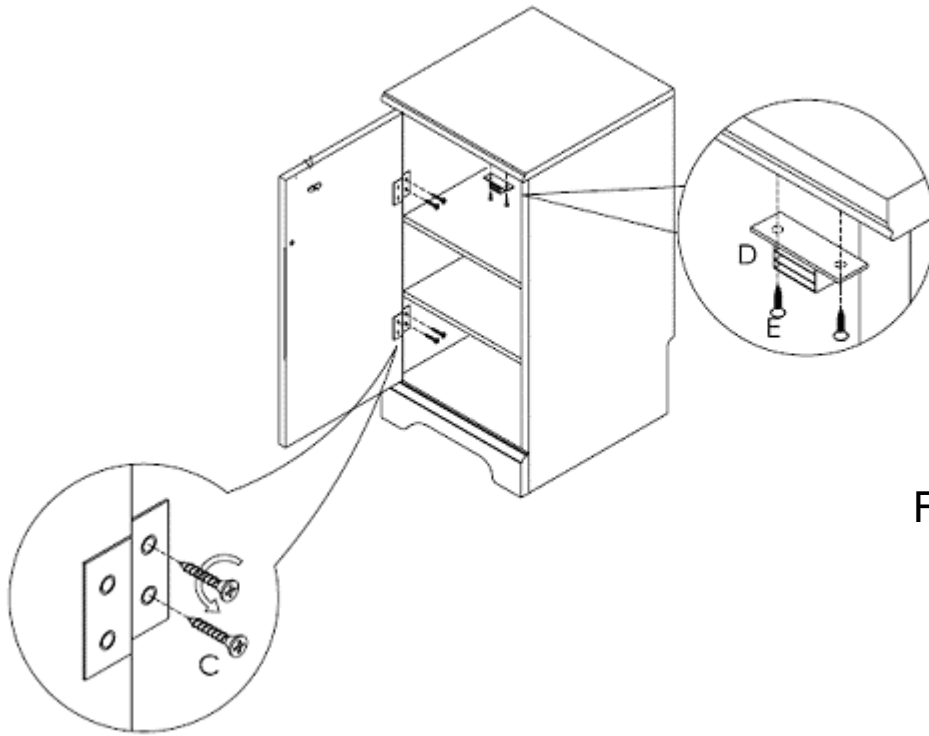

Fig 1
1. The door can also be attached on right side. To do so, exchange the cabinet door with the door of the hutch. Unscrew the door hinge and Magnet (D) from the cabinet. (Fig. 1)